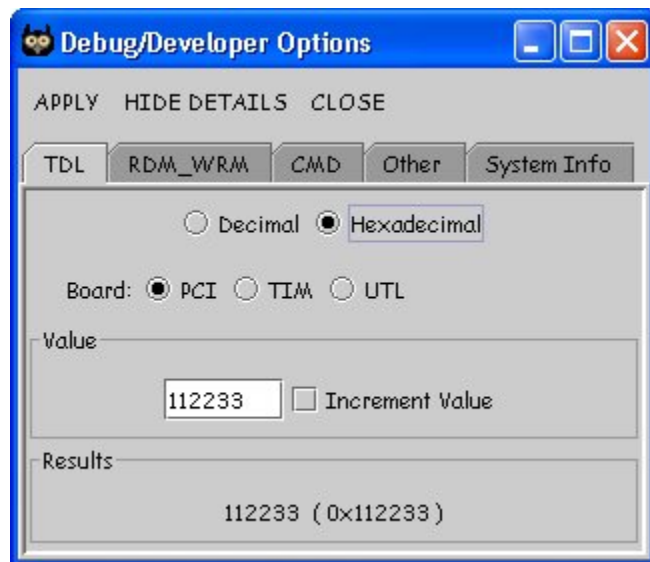

Figure 12. The debug TDL option tab.
**TDL** – This tab is used to verify communication between the host computer and the PCI board, controller timing board, or controller utility board. The *decimal/hexadecimal* option allows the input and output to be in the selected radix. Selecting this option will automatically change all values to the newly selected radix. The *increment value* checkbox increments the value after each click of the apply button. See figure 12.